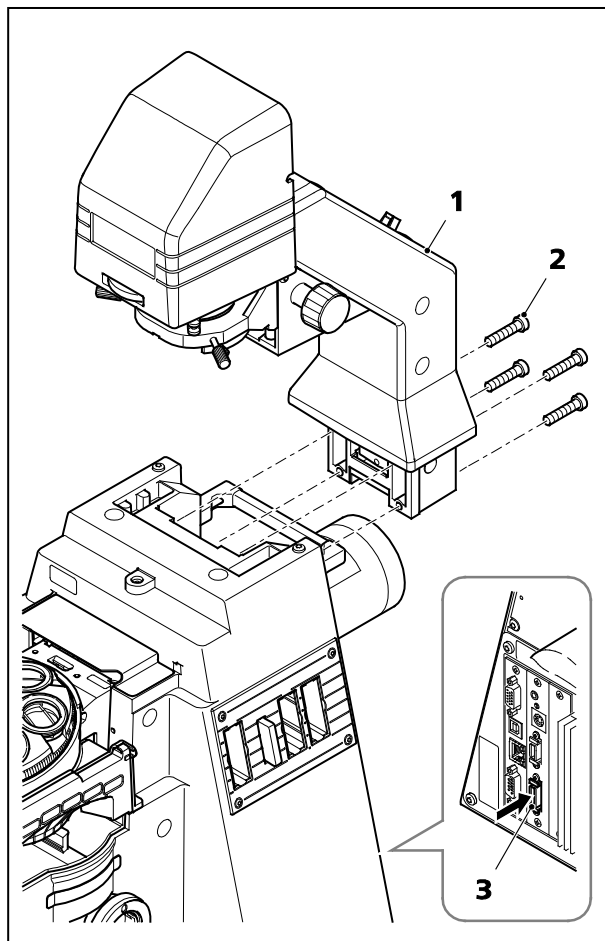

Fig. 17 Fitting the carrier for transmitted-light illumination
- Place the mount (Fig. 17/1) in position against the rear of the stand and screw into place using the four Allen screws provided (Fig. 17/2) and the 4 mm Allen key.
- Insert the LCD display connector (Axio Observer 5 and 5 materials only) into the socket for the carrier for transmitted-light illumination with LCD display (Fig. 17/3) on the rear of the stand.